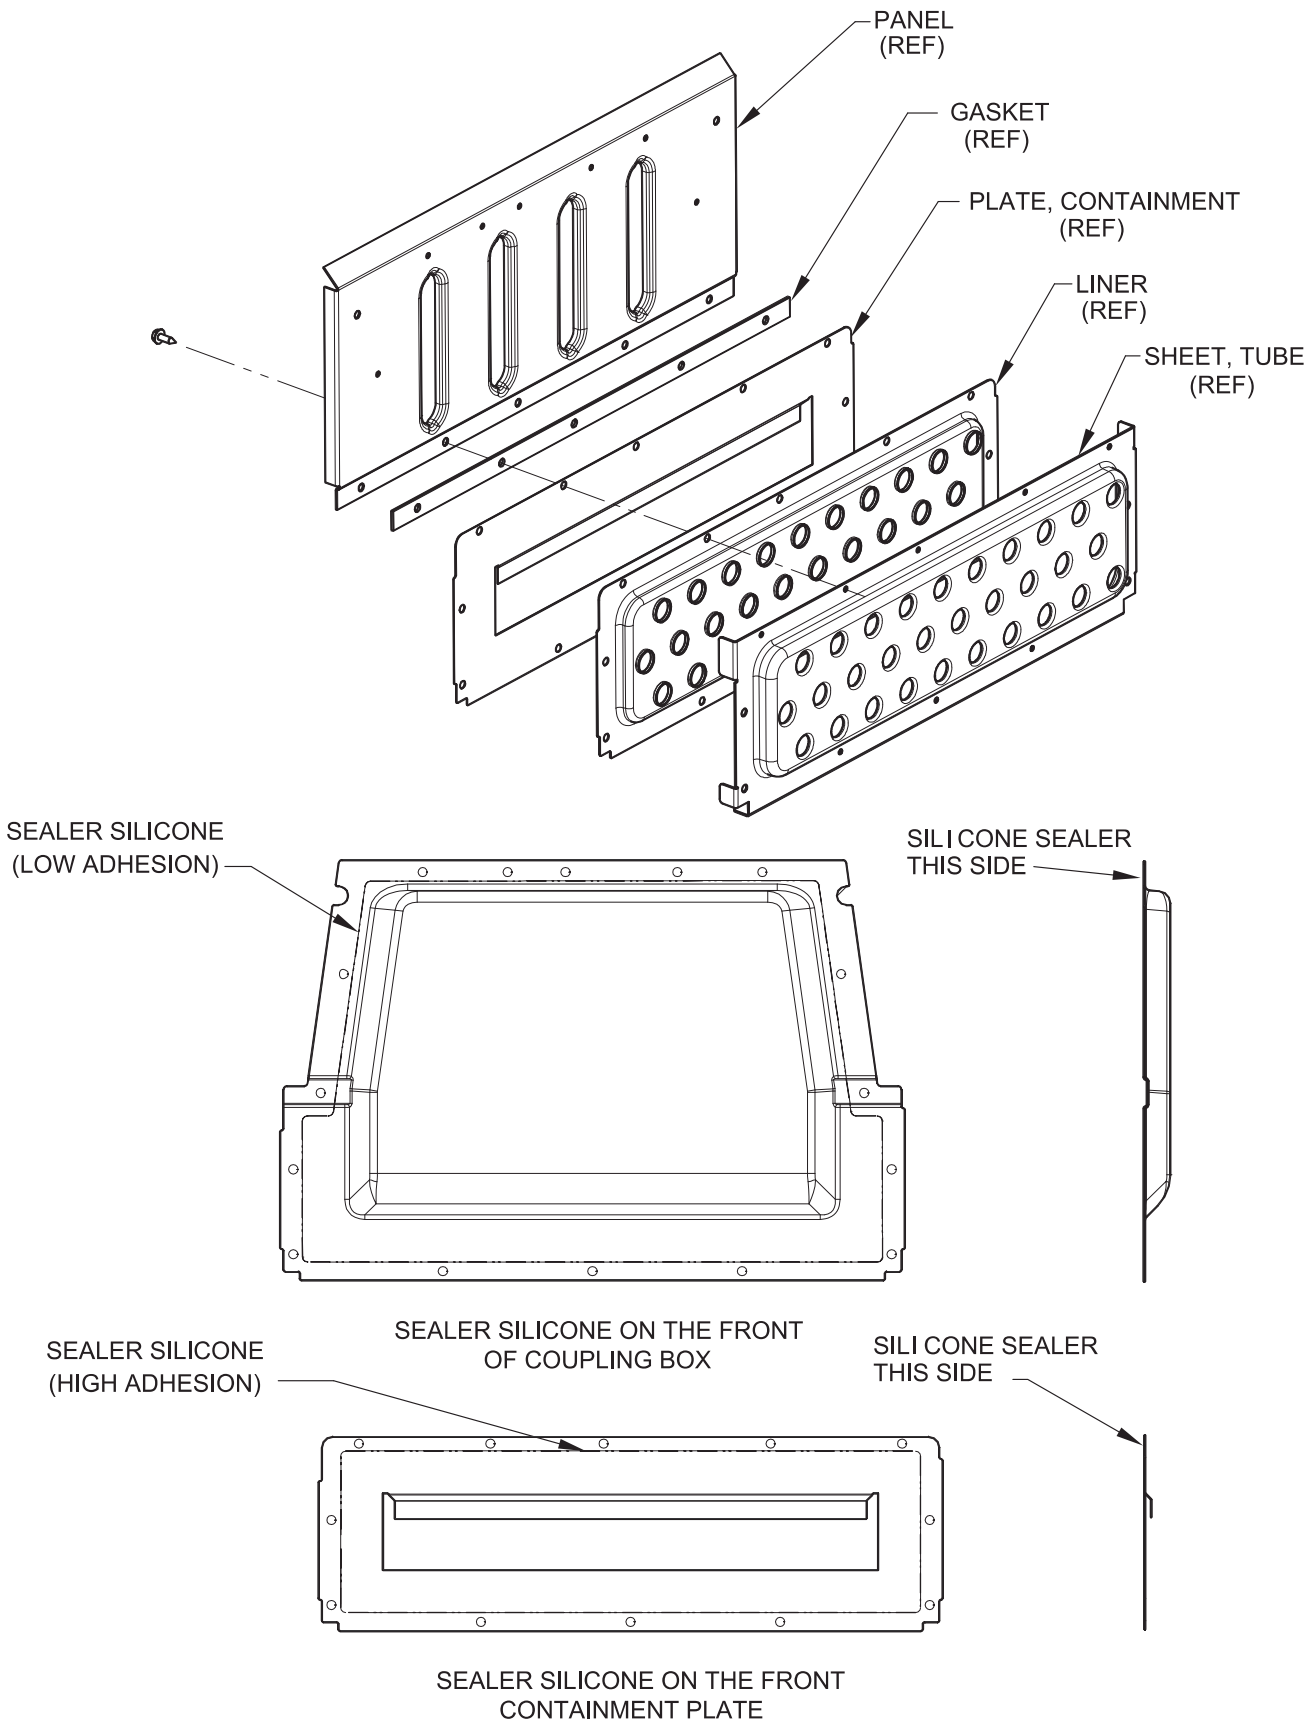

Fig. 5 - Containment Plate and Collector Box Sealant Application
1. Apply a 1/4-in. (6 mm) bead of low adhesion silicone (white) to the inside edge of the coupling box cover. See Fig. 5.